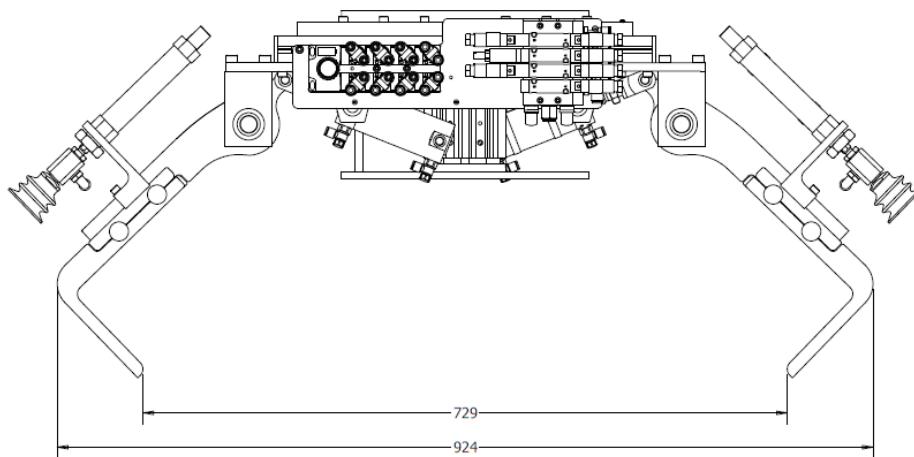

Figure 14 Bag gripper max. opening position (manually adjustable).
- Position showing the maximum width with fingers in the open position (Adjustable by the Customer), see figure 14.